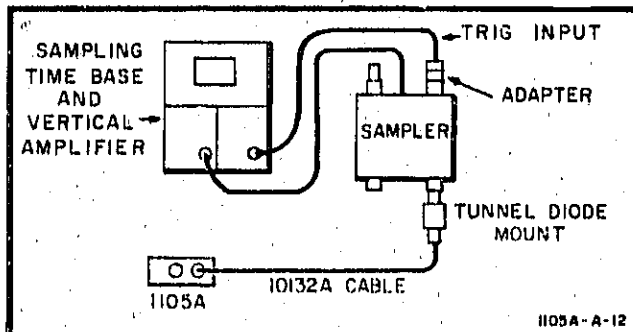

Figure 9. Free-Run Test Setup
30. Connect the equipment as shown in Figure 9 and perform the following steps: